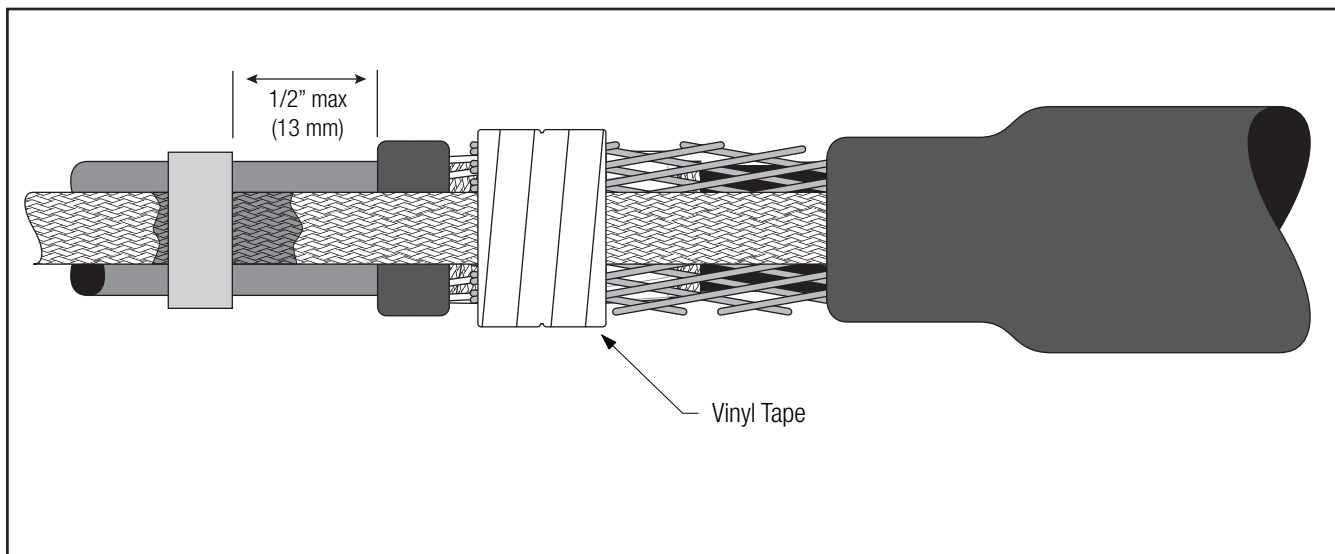

Figure 20
- 5.6 Wrap two half-lapped layers of vinyl tape over all constant force springs (*Figure 20*).